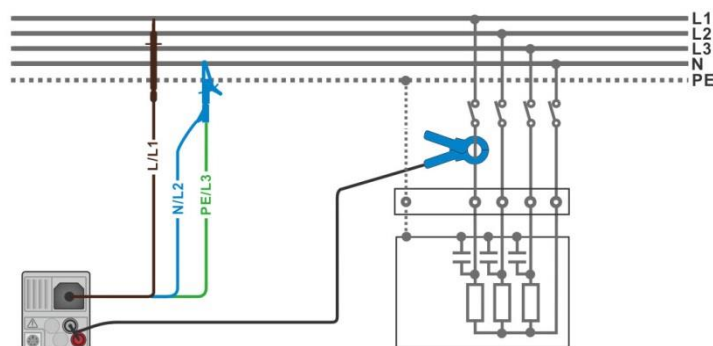

Figure 7.70: Harmonics measurement
- › Connect the voltage test leads and current clamp to the item to be tested, see **Figure 7.70**.